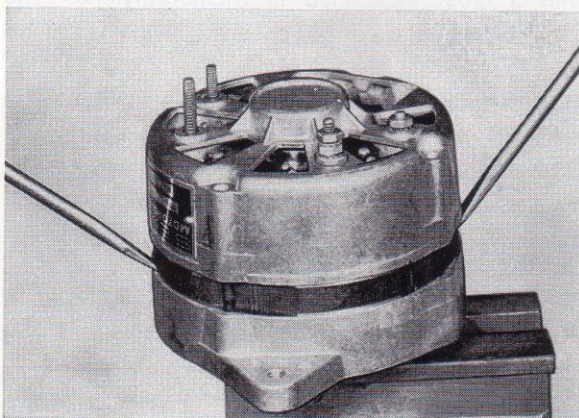

Fig. 27. Dismantling the alternator
6. Remove the rotor and drive end shield with the help of two screwdrivers, which are inserted in two of the sockets between the stator and drive end shield, see Fig. 27.